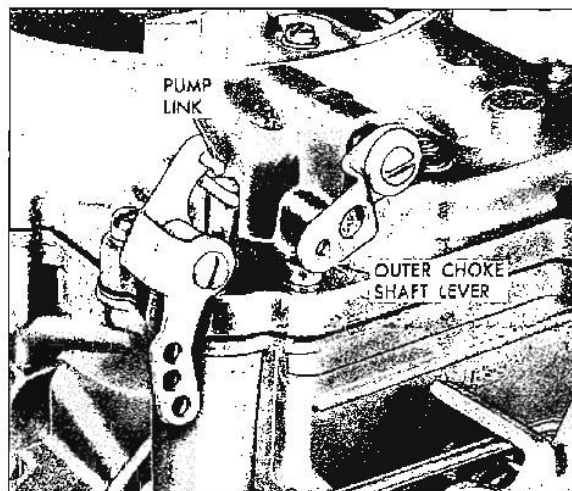

Fig. 6B-96 Pump Link Installed
16. Install choke shaft lever, washer, and screw on end of choke shaft (Fig. 6B-96).